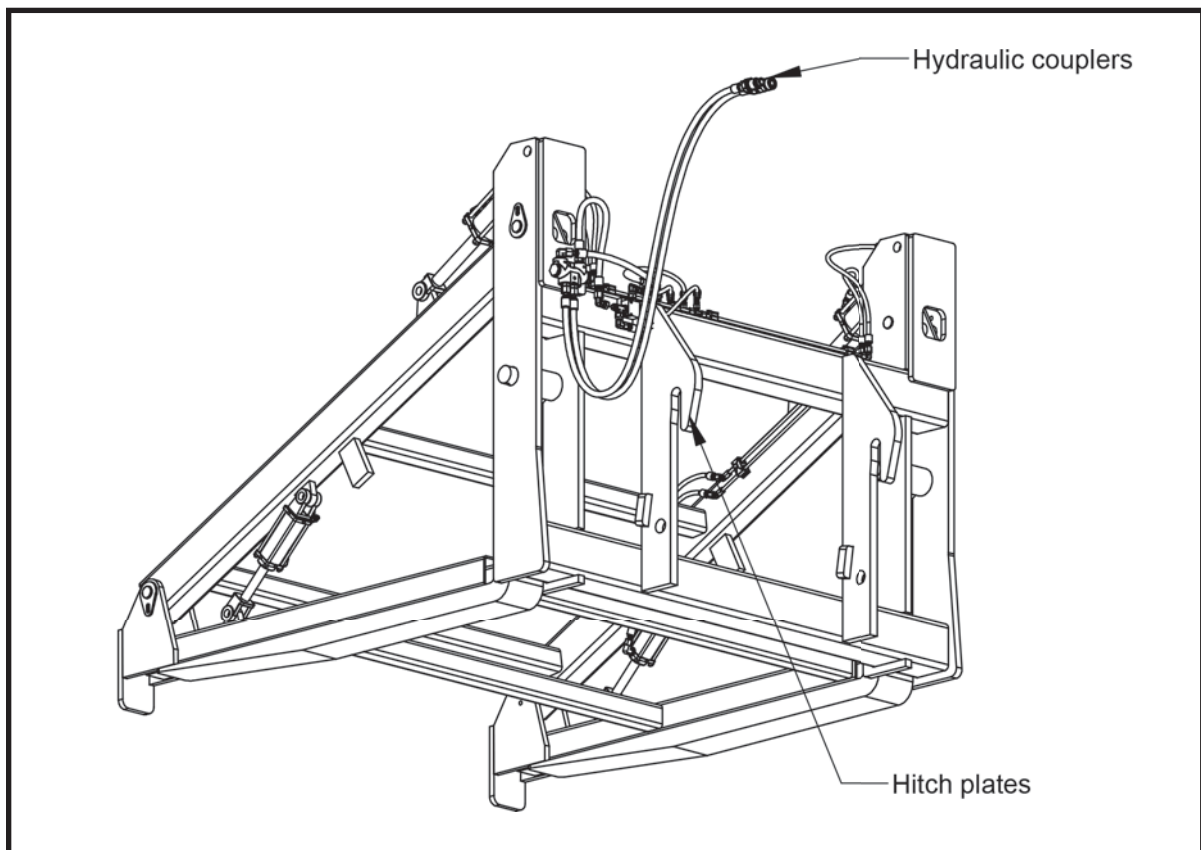

Figure 1: Installation Diagram
- **Quick hitch (as shown in Figure 1):**